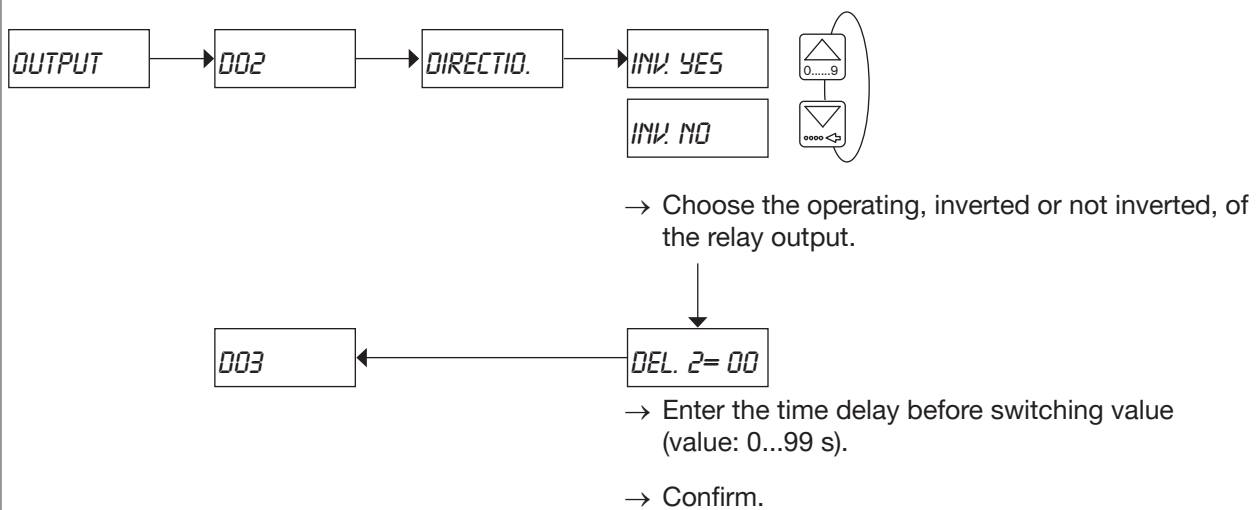

Fig. 37: Configuration of the DO2 or DO3 relay output to indicate the fluid circulation changes
- to switch a load to indicate the fluid circulation changes. See Fig. 37.